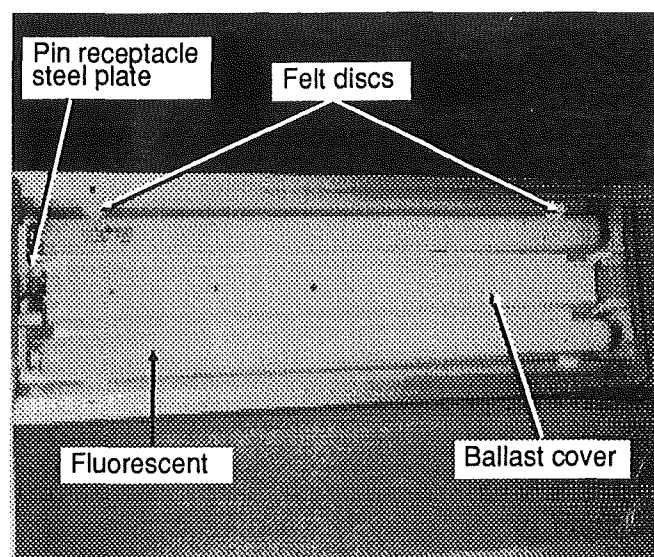

FIG. 20 - Lavatory fluorescent lamp assembly
2. Unsnap defective fluorescent tube by pushing its both extremities simultaneously against felt discs (see fig. 20).